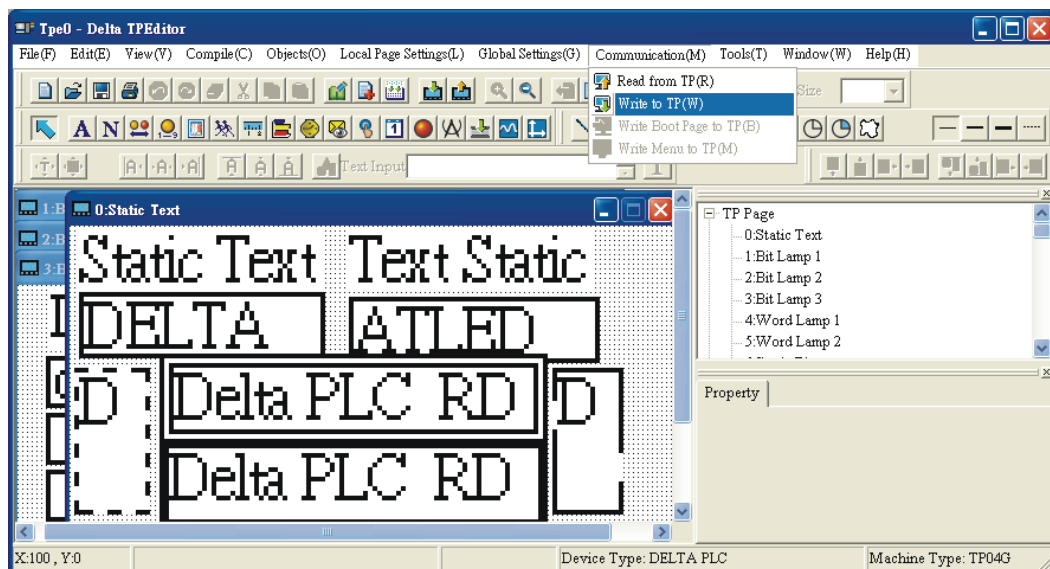
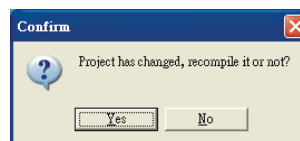

Figure 2-6
Figure 2-7
Step 3. Then, activate TPEditor software program, click **Communication(M) > Write to TP(W)** (Figure 2-6). The Confirm dialog box will display (Figure 2-7), and then press **Yes** button for confirmation. The system will start to download the program to TP series. At the same time, the downloading status (percentage of downloading) will also show during download process (Figure 2-8). After the download succeeded, press **OK** button to complete transmission (Figure 2-9).